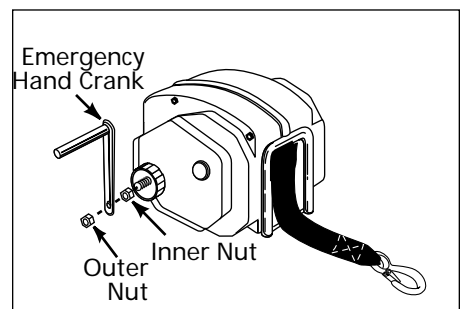

Figure 4 Emergency Hand Crank Assembly
2. Turn the clutch control knob clockwise until tight. DO NOT overtighten the knob or clutch damage will occur (See Figure 4).
3. Remove the outer nut shown in Figure 4 and place the emergency hand crank on the shaft.
1. Remove the outer nut shown in Figure 4 and remove the emergency hand crank off the shaft.